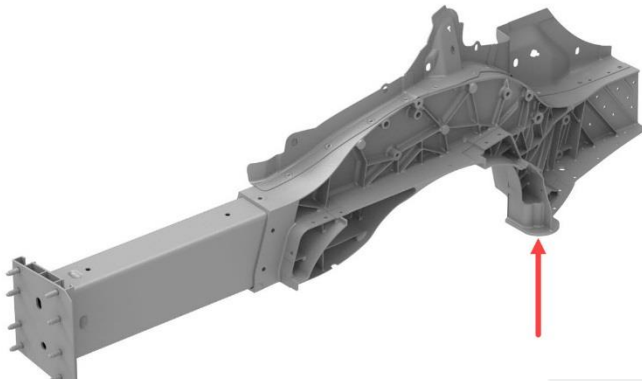
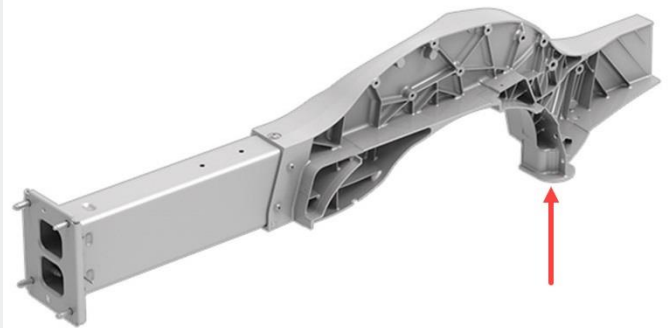

Figure 1 Model S Rear Node
Figure 2 Model X Rear Node
2. Inspect the forward subframe attachment points to both rear nodes (Figure 1 and Figure 2):